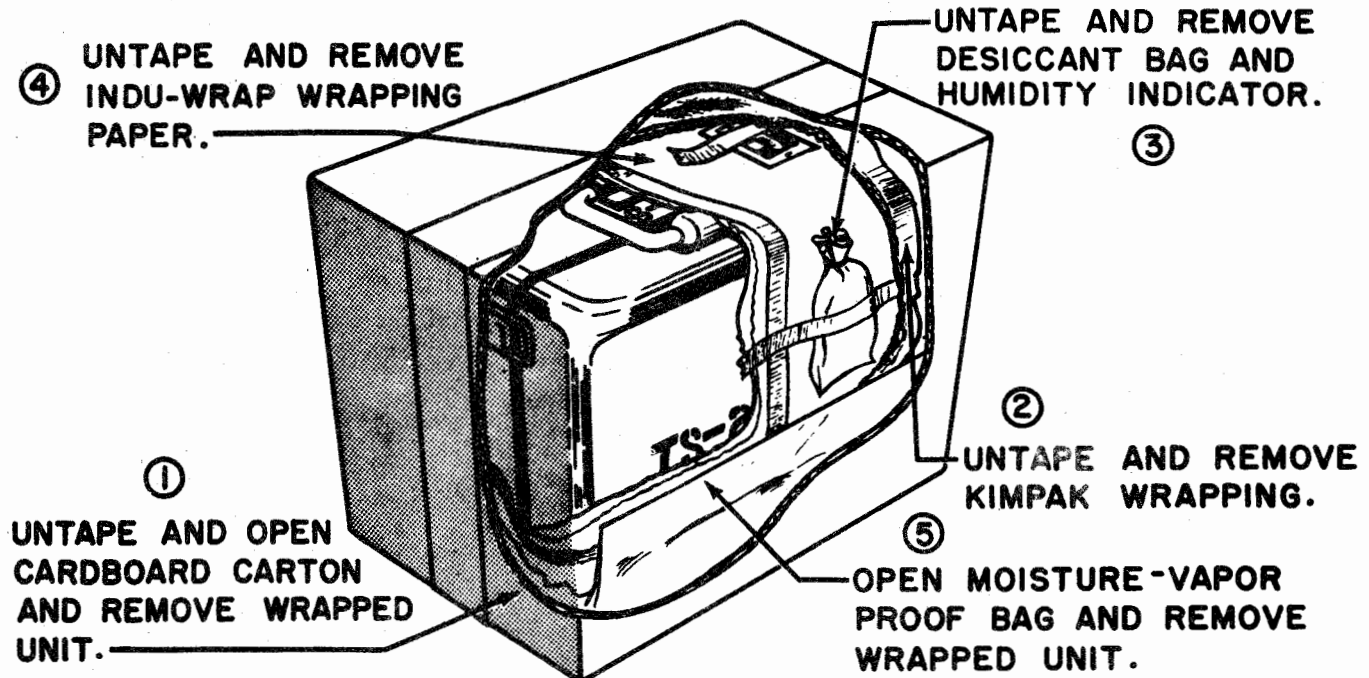

Figure 3-1. Unpacking Procedure
1. UNPACKING. (See figure 3-1.)